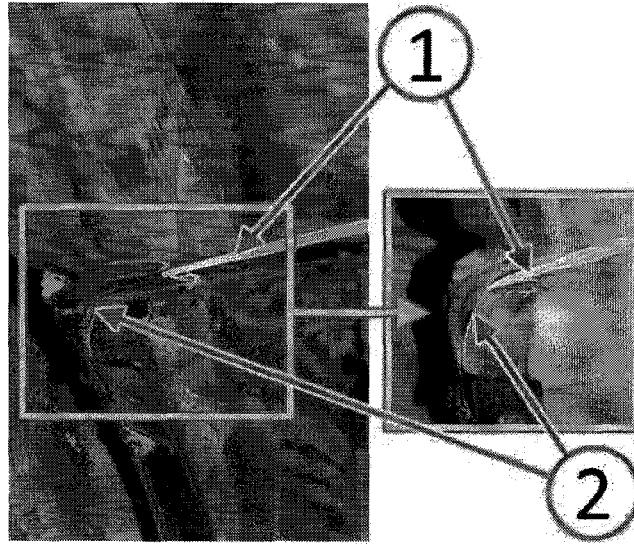

Fig. 2 Modify Applicator Tube To Fit Slot
4. Oval or flatten slightly the end of the Kent® Spray Leak Check sealer extension tube (1) in order to allow the tube to fit into the fascia support flange slot (2) (Fig. 2).